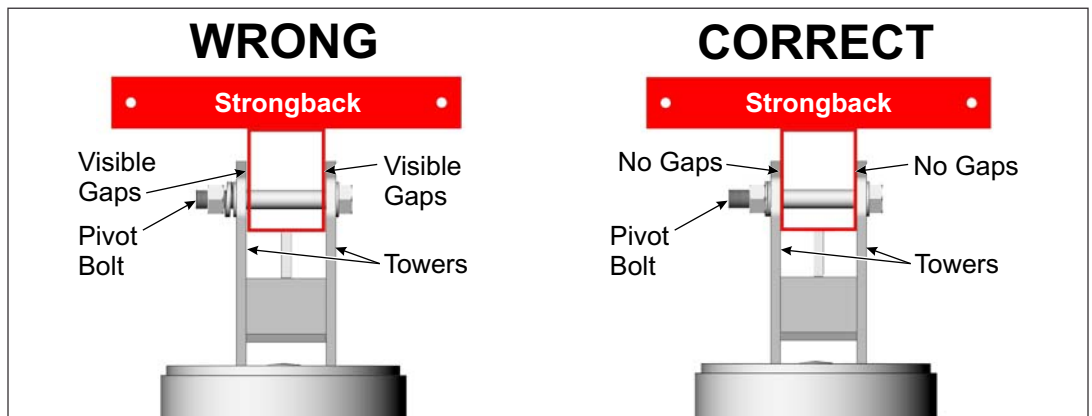

Figure 2-4: Tighten and Torque the Pivot Bolt
- G. Return and tighten the Pivot Bolt. The Pivot Bolt cannot be left loose - the Mounting Sleeve Vertical Towers must be firmly clamped to the sides of the Strongback eliminating any gaps between the Vertical Towers and the Strongback. **Torque to 125-150+ ft.-lbs. for 3/4" hardware or 330-350 ft.-lbs. for 1" hardware.** (See Figure 2-4)